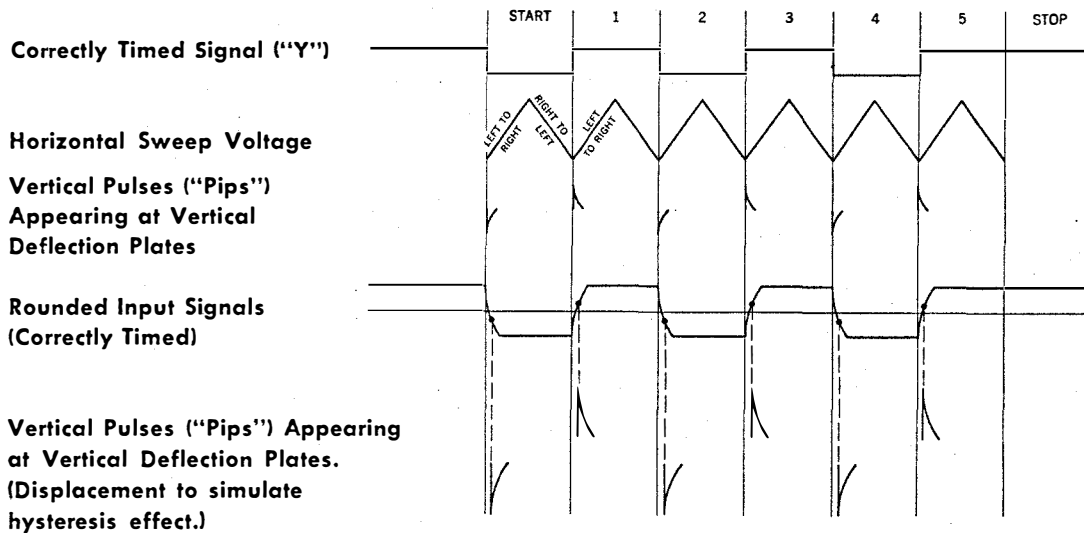

Fig. 3 - Time Relations of Signal, Horizontal Sweep, and Vertical Pulses
3.03 For the PIP type of display, the internal circuits of the sets produce a sweep voltage which is applied to the plates causing horizontal deflection of the beam of the cathode ray tube. This sweep is triggered by the leading edge of the start element of the external signal being measured. The voltage which causes the beam to "sweep" has an isosceles shape, which causes the spot on the tube face to move from left to right and then from right to left, with uniform velocity during both directions of travel. The period of a full cycle is equal to that of a unit length element for the signal speed to be measured. Thus, the left end of the horizontal trace occurs at times corresponding to both the beginning and end of the period of a correctly timed signal element. See Fig. 3. The right end of the trace occurs at the center point of the period of
3.04 The internal circuits of the sets produce other voltages from the signals which are being measured, and these voltages are applied to the plates of the cathode ray tube causing vertical deflection of the beam. These voltages are impulses or pips which occur at times corresponding to those at which a relay would operate and release when driven by the signal. For square signals these points correspond in time to the signal transitions. For rounded signals, they correspond to points representing relay operate values, as shown in Fig. 3. The displacement of these points above and below the nominal operate value of relay current is provided to take account of hysteresis, or magnetic lag, of normal relays. Thus the 164 sets respond to signals in the same manner as any telegraph signal receiver which has an input relay. The voltage pips produced on the face of the cathode ray tube are